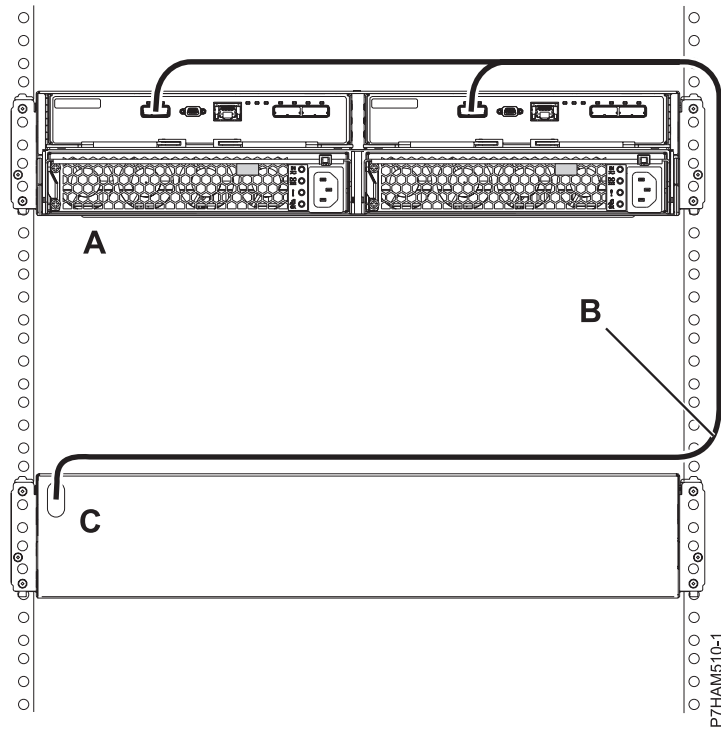

Figure 28. Mode 1 connection of one 5887 disk drive enclosure by using a YI cable to a system with support for a single SAS drawer
- h. Perform the mode 1 connection of one 5887 disk drive enclosure **(A)** by using a YI cable **(B)** to a system with support for a single SAS drawer **(C)** as shown in Figure 28 on page 25.